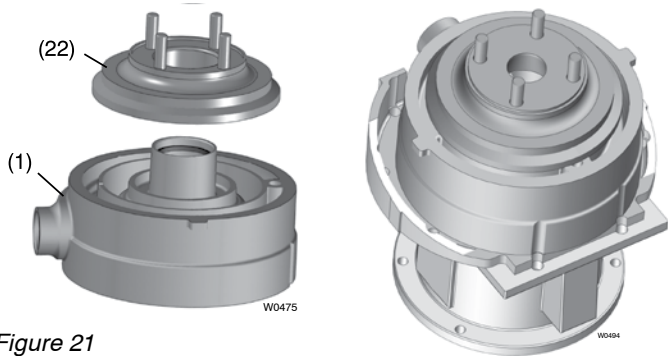

Figure 21
23. Install suction flange support (22) over the case suction port shown in Figure 21. Bolts to straddle centerlines.